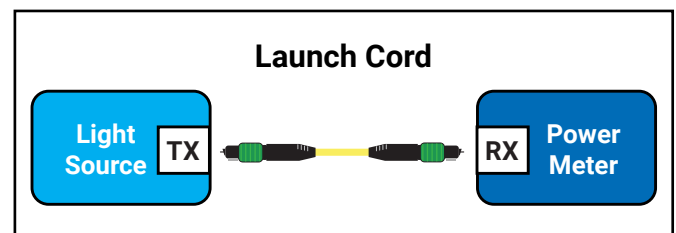

Figure 11a: Establish a reference
4. Connect the launch cord between the light source and the power meter (see Figure 11a).